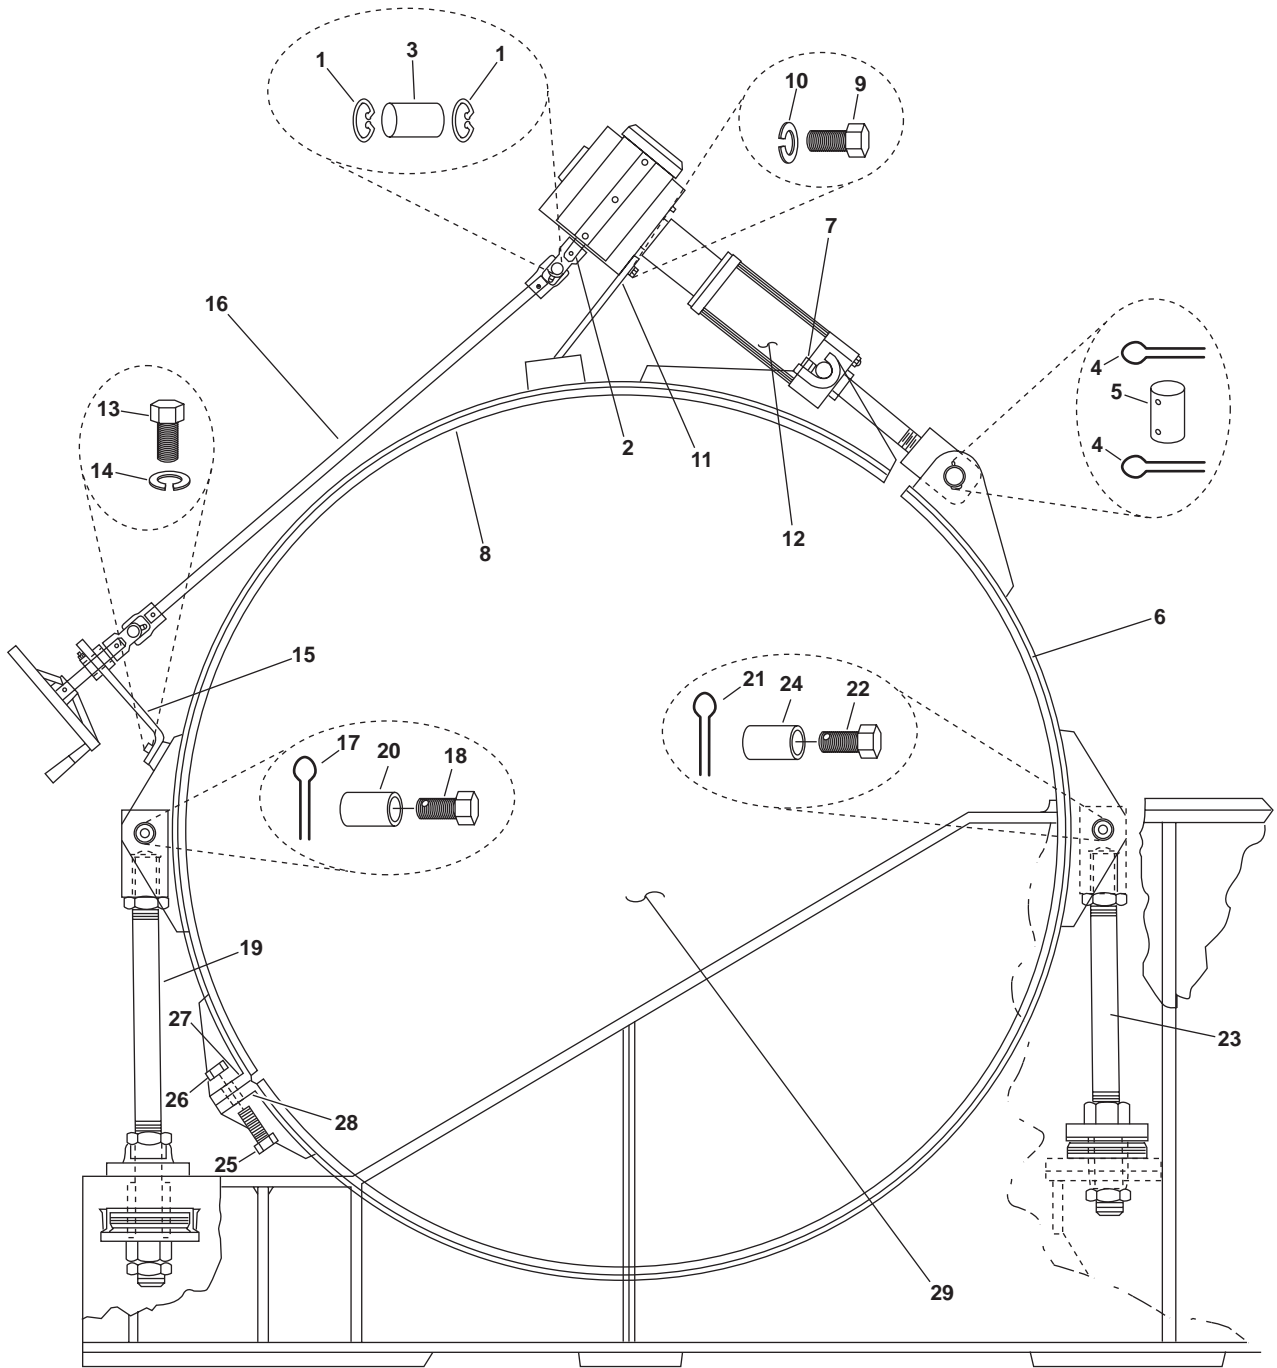

Figure 3. Clutch Brake Assembly
1. Remove the two retaining rings (figure 3, item 1) from the universal joint (figure 3, item 2). Discard the retaining rings.
2. Remove the yoke pin (figure 3, item 3) from the universal joint (figure 3, item 2).
3. Remove the two cotter pins (figure 3, item 4) from the pin (figure 3, item 5) in the lower clutch brake band (figure 3, item 6). Discard the cotter pins.
4. Remove the pin (figure 3, item 5) from the lower clutch brake band (figure 3, item 6).
5. Remove the bolt (figure 3, item 7) from the upper clutch brake band (figure 3, item 8).
6. Remove the two bolts (figure 3, item 9) and two lockwashers (figure 3, item 10) from the torque arm (figure 3, item 11). Discard the lockwashers.
7. Remove the clutch compressor (figure 3, item 12) from the lower clutch brake band (figure 3, item 6) and the upper clutch brake band (figure 3, item 8).
1. Install the clutch compressor (figure 3, item 12) on the lower clutch brake band (figure 3, item 6) and the upper clutch brake band (figure 3, item 8).
2. Install the two bolts (figure 3, item 9) and two new lockwashers (figure 3, item 10) through the torque arm (figure 3, item 11) and into the clutch compressor (figure 3, item 12).
3. Install the bolt (figure 3, item 7) in the upper clutch brake band (figure 3, item 8).
4. Install the pin (figure 3, item 5) in the lower clutch brake band (figure 3, item 6).
5. Install two new cotter pins (figure 3, item 4) in the pin (figure 3, item 5).
6. Install the yoke pin (figure 3, item 3) in the universal joint (figure 3, item 2).
7. Install two new retaining rings (figure 3, item 1) on the universal joint (figure 3, item 2).
2. Remove the two bolts (figure 3, item 13) and the two lockwashers (figure 3, item 14) from the hand wheel bracket (figure 3, item 15). Discard the lockwashers.
3. Remove the clutch brake hand wheel and drive shaft assembly (figure 3, item 16) from the upper clutch brake band (figure 3, item 8).
4. Remove the cotter pin (figure 3, item 17) from the bolt (figure 3, item 18) in the forward connecting rod (figure 3, item 19). Discard the cotter pin.
5. Remove the bolt (figure 3, item 18) from the pin (figure 3, item 20) in the forward connecting rod (figure 3, item 19).
6. Remove the pin (figure 3, item 20) from the upper clutch brake band (figure 3, item 8).
7. Remove the cotter pin (figure 3, item 21) from the bolt (figure 3, item 22) in the aft connecting rod (figure 3, item 23). Discard the cotter pin.
8. Remove the bolt (figure 3, item 22) from the pin (figure 3, item 24) in the aft connecting rod (figure 3, item 23).
9. Remove the pin (figure 3, item 24) from the lower clutch brake band (figure 3, item 6).
10. Remove the two bolts (figure 3, item 25) and two nuts (figure 3, item 26) from the upper clutch brake band bracket (figure 3, item 27) and the lower clutch brake band bracket (figure 3, item 28).
11. Remove the upper clutch brake band (figure 3, item 8) from the towing machine drum (figure 3, item 29).
12. Remove the lower clutch brake band (figure 3, item 6) from the towing machine drum (figure 3, item 29).
1. Install the lower clutch brake band (figure 3, item 6) on the towing machine drum (figure 3, item 29).
2. Install the upper clutch brake band (figure 3, item 8) on the towing machine drum (figure 3, item 29).
3. Install the two bolts (figure 3, item 25) and the two nuts (figure 3, item 26) on the upper clutch brake band bracket (figure 3, item 27) and the lower clutch brake band bracket (figure 3, item 28).
4. Install the pin (figure 3, item 24) through the aft connecting rod (figure 3, item 23) and the lower clutch brake band (figure 3, item 6).
5. Install the bolt (figure 3, item 22) in the pin (figure 3, item 24).